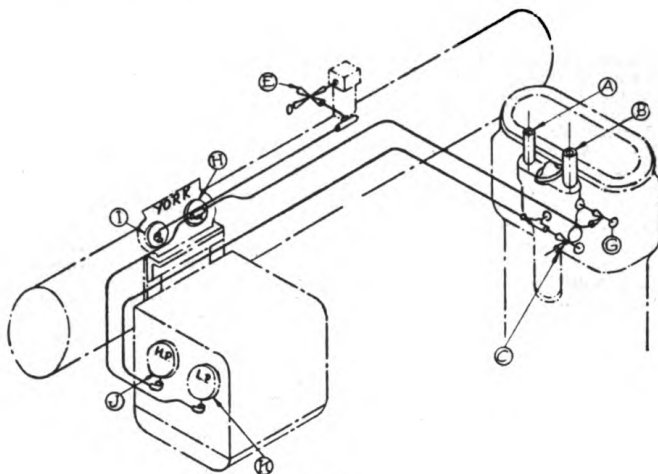

FIG. 4
- 13 Ammonia Pressure Gauge, see Fig. 4
| <p>Parts</p> <p>1 Suction Trap, see Fig. 7</p> <p>2 Agitator Motor—1½ H.P. Howell, see Fig. 26</p> <p>3 8" Vertical Agitator, see Fig. 8</p> <p>4 Ice Can, 100 lbs. size (nominal)</p> <p>5 Oak Framework and Covers, see Fig. 6</p> <p>6 Freezing Tank Coils, see Fig. 7</p> <p>8 Compressor Motor—20 H.P. Westinghouse, see Fig. 24</p> | <p>Parts</p> <p>9 Mercoid High Pressure Cut-out, see Fig. 18</p> <p>10 Mercoid Low Pressure Cut-out, see Fig. 17</p> <p>11 Ammonia Condenser, see Fig. 1</p> <p>12 Ammonia Piping, see Fig. 3</p> <p>13 Ammonia Pressure Gauge, see Fig. 4</p> <p>14 Compressor Motor Starter—20 H.P. Westinghouse, see Fig. 25</p> <p>15 Ammonia Compressor, see Fig. 31</p> |
J	High Pressure Cut-out—Fig. 4
K	Low Pressure Cut-out—Fig. 4